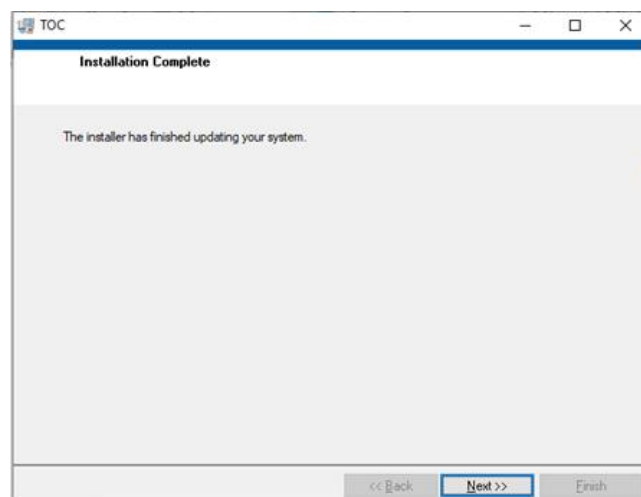

Fig. 3.44
6)Click 'Finish' (Fig. 3-57), and the installation is completed. (Fig.3.44).